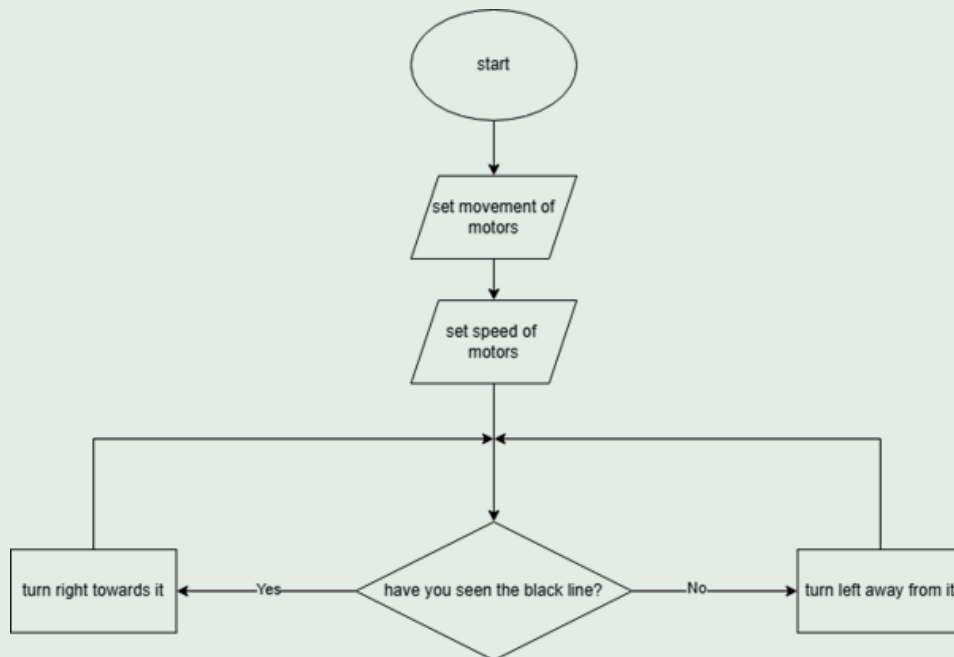

Fig. 8.19: Flowchart showing a line following robot.
7. Compare your flowchart and program logic to Figures 8.19 and 8.20: Are they different?